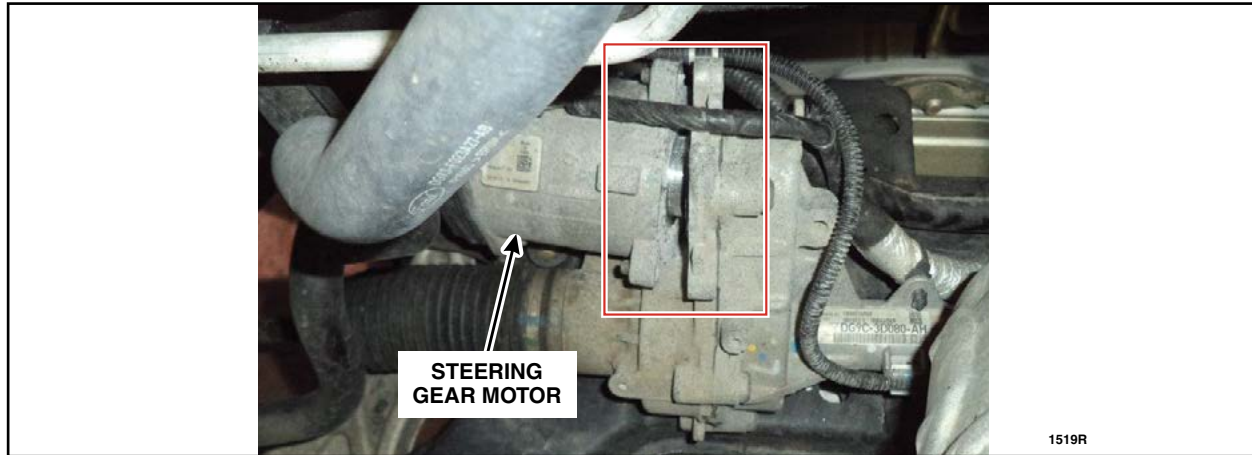

FIGURE 7
1. Inspect the steering gear motor for signs of separation, broken or missing bolts. See Figure 7.